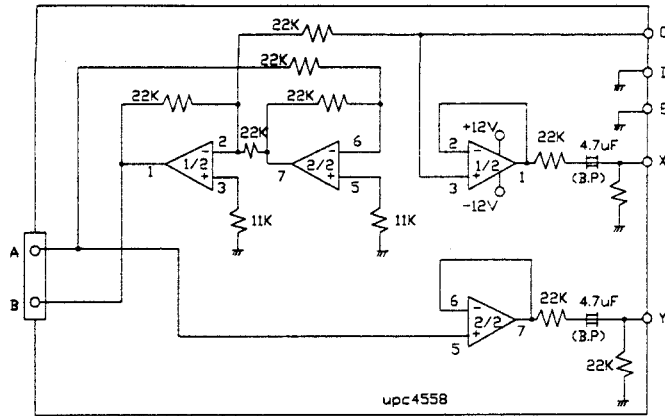
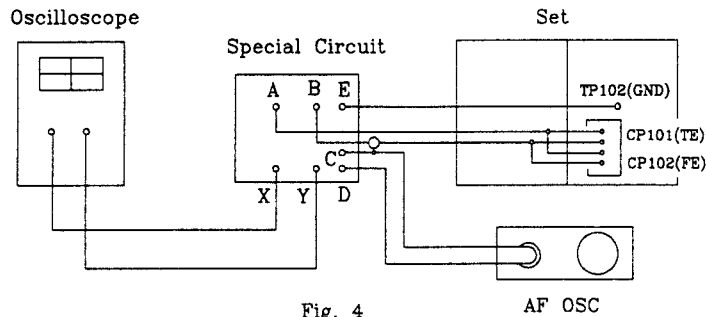

Fig. 3
Fig. 4
2. Connect oscilloscope, special circuit (Fig. 3 Page 9), AF - OSC and the set as shown Fig. 4 Page 9.
2. Connect oscilloscope , special circuit (Fig. 3 Page 9) , AF - OSC and the set as shown Fig. 4 Page 9.